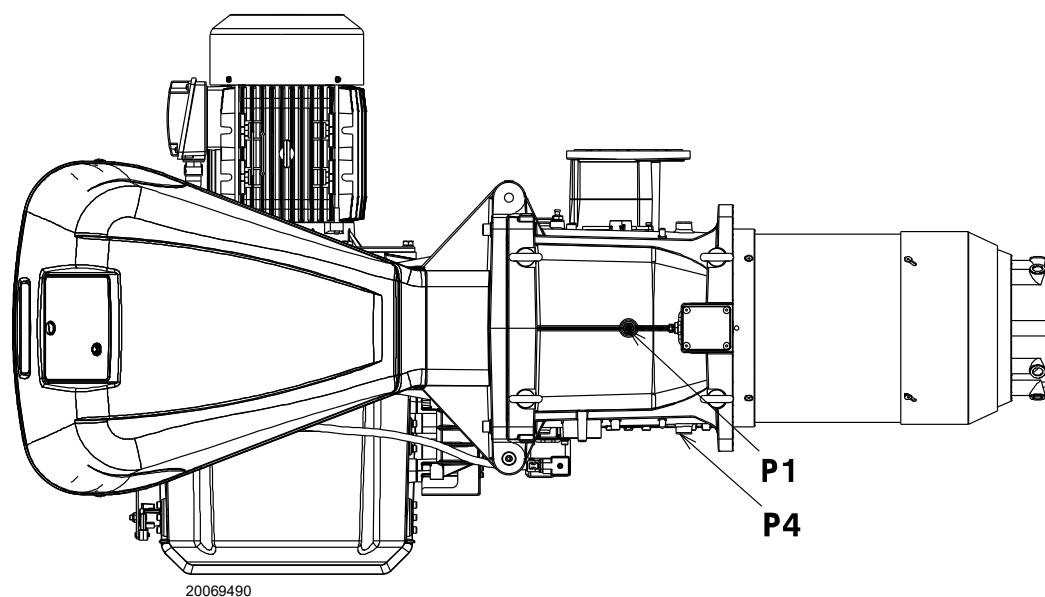

Fig. 23
Gas pressure measured at the test point P1)(Fig. 23), with:
- subtract the combustion chamber pressure from the gas pressure measured at test point P1)(Fig. 23).
Gas pressure at test point P1)(Fig. 23) = 58.1 mbar
To calculate the required gas pressure at test point P1)(Fig. 23), set the MAX output required from the burner operation:
- Read, on the right (column 1), the pressure at the test point P1)(Fig. 23).
Pressure required at test point P1)(Fig. 23).